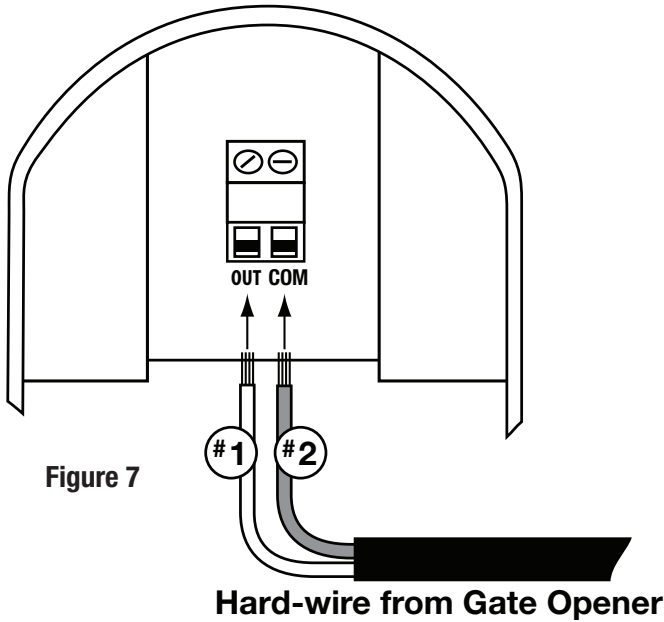

Figure 7
**Step 2:** Strip the wires back 3/16" and attach the wires to the terminal block marked OUT COM on the keypad control board as shown in (**Figure 7**) making sure to keep track of polarity. Connect the other end to the opener's control board as shown in Control Board Connections section below.